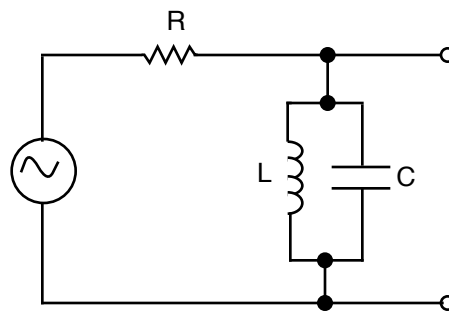

Fig 2.1
Construct the parallel resonant circuit of Fig. 2.1. The parallel LC circuit is often called a “tank.” Pick values of L and C to give a resonant frequency of around 10 kHz. Measure the internal resistance of L . What is the Q value you expect from the resonant circuit. If the value of L the inductor is not well established, use the circuit to determine L .
Drive the circuit of Fig. 2.1 with a sine wave and carefully observe the frequency response of the output voltage. Set up the function generator to sweep a range of frequencies and display the response on the oscilloscope.
3. The purpose of the R in fig. 2.1 is to make the function generator appear to act like a current source. How effective is this and how might the limitations of this ruse affect the agreement between theory and experiment?